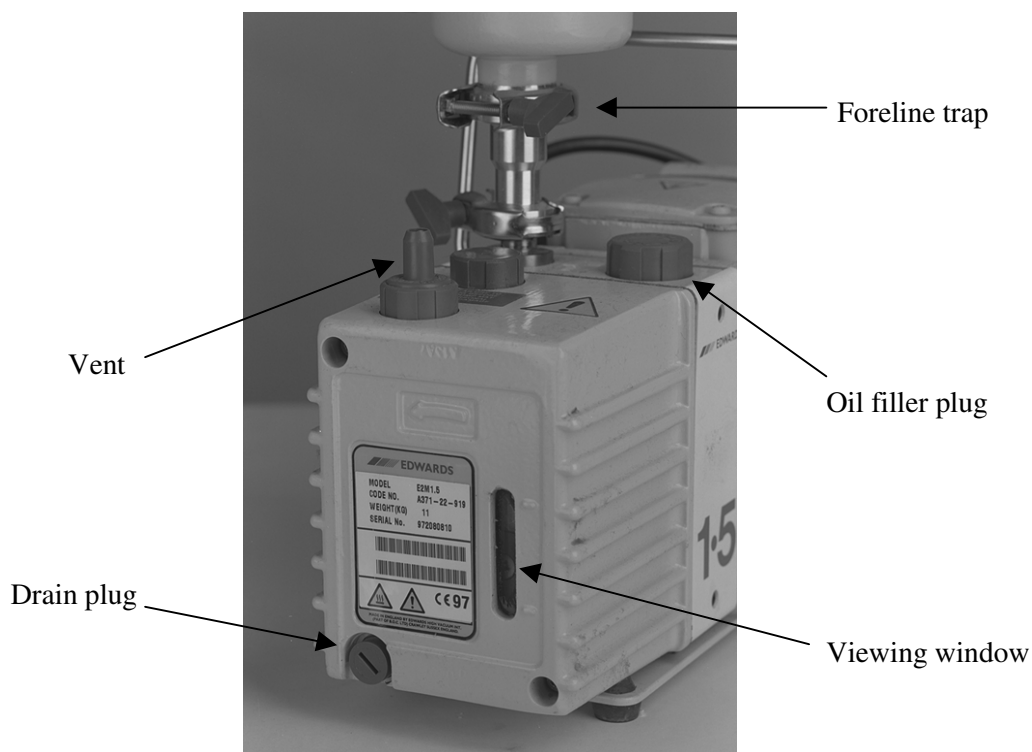

Figure 4-1. Rotary pump
1. Look through the viewing window in the end of the rotary pump (see Figure 4-1).
3. Remove the oil filler plug (see Figure 4-1).
4. Remove the filler plug from the top of the pump (see Figure 4-1).
4. Remove the end cap from the foreline trap to gain access to the inner baskets of pellets (see Figure 4-1).